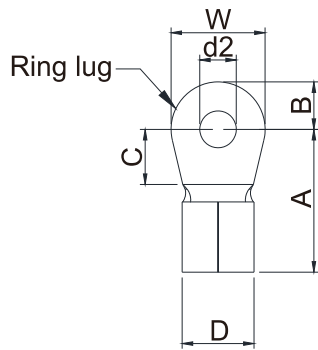

Fig.1
- Use the specified ring lug for main circuit terminal wiring. See Fig.1 and Fig.2 for ring lug specifications. For other types of wiring use the wires that comply with the local regulation.